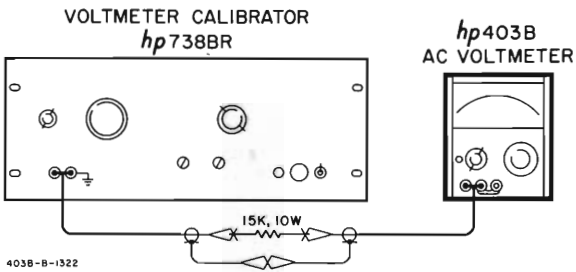

Figure 5-3. Overload Check Setup
- a. Connect the 403B as shown in Figure 5-3.
THE 15KΩ RESISTOR MUST BE CONNECTED AS SHOWN IN FIGURE 5-3 TO PREVENT DAMAGE TO VOLTMETER CALIBRATOR.